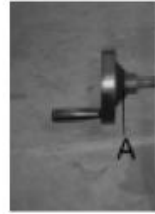

Fig.4
To tension the blade, turn the blade tension handle (A) Fig.4 Rotate clockwise to A direction to adjust the tightness. Always release blade tension at the end of each work day to prolong blade life.